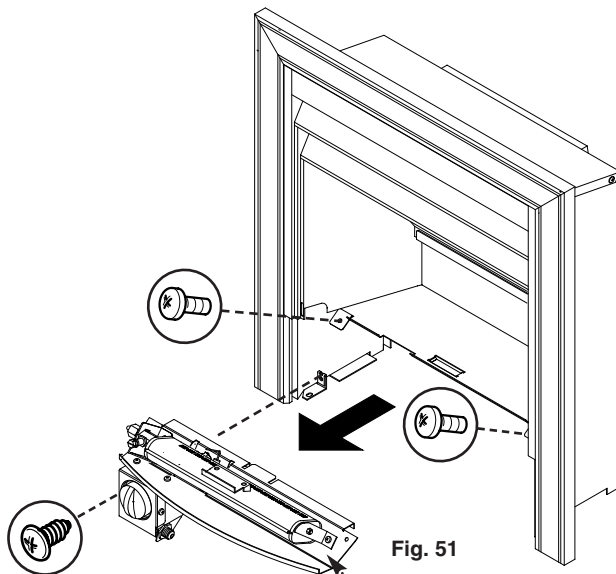

Fig. 51
1. Undo the three retaining screws and remove the controls assembly from the fire combustion box (Fig. 51).